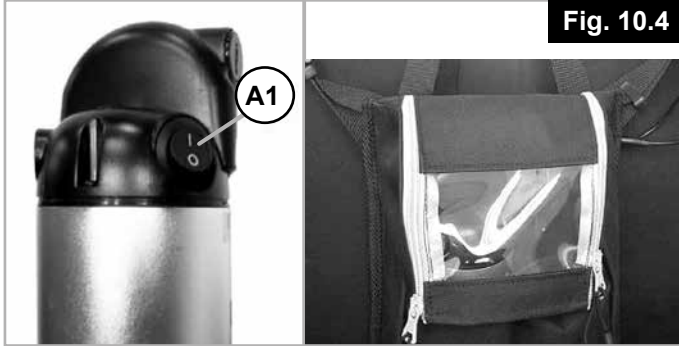

Fig. 10.4
10.4 Switching on/off (Fig. 10.4)